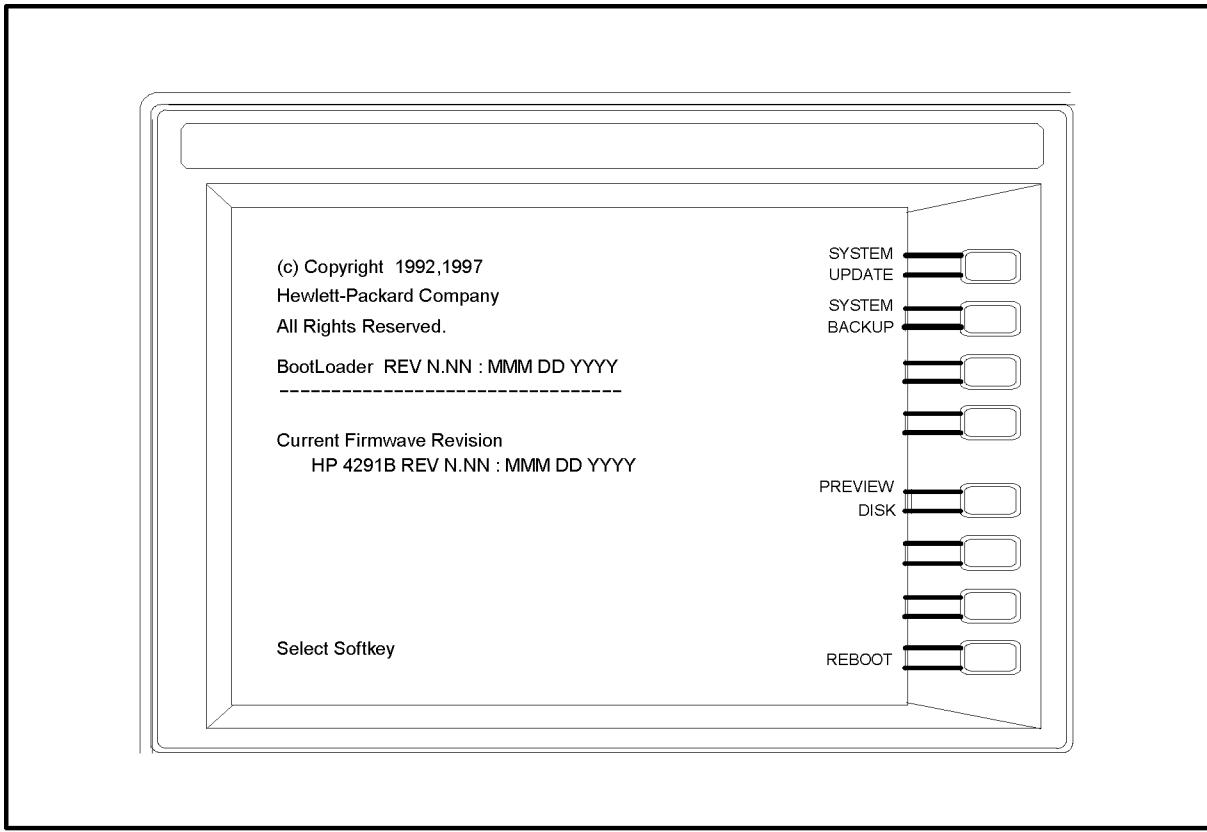

Figure 14-2. Bootloader Menu Display
3. Wait until the bootloader menu appears on the CRT as shown in Figure 14-2.